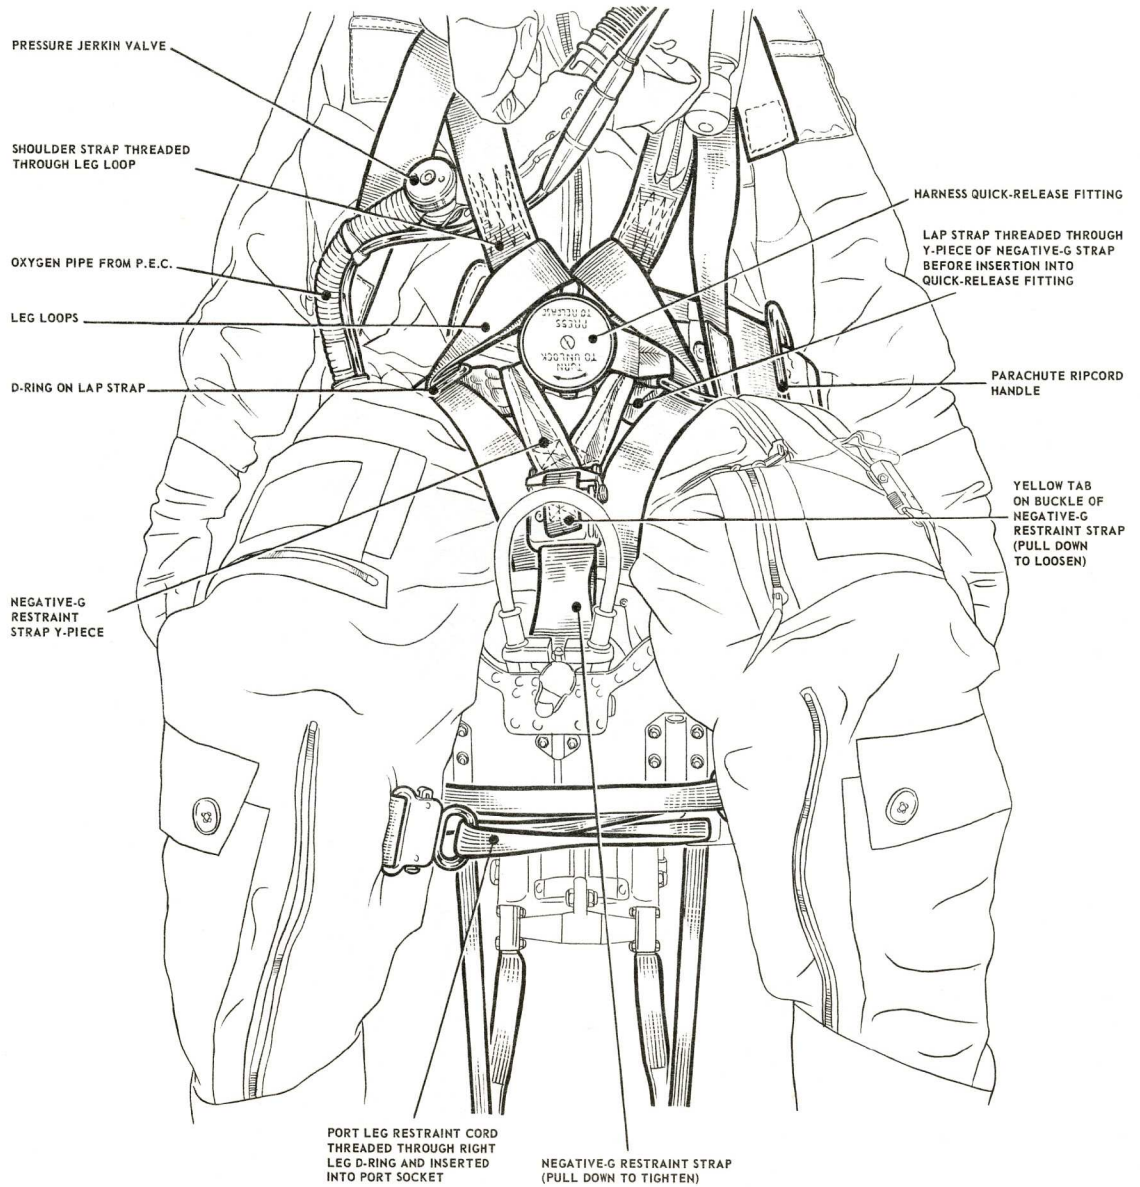

Fig. 8. Arrangement of leg restraint cords
17. The procedure for strapping-in is as follows, refer to figs. 8 to 10 as necessary :—
- (1) Ensure that the safety pins are correctly fitted in the 'safe for parking' condition.
- (2) Remove the dust cover from the P E.C. and fit it into the stowage on the right hand side of the seat pan.
- (3) Check that the static rods from the drogue gun and the barostatic time release unit are secured correctly
- (4) Grasp each lap strap and shoulder strap of the harness, pull sharply on each in turn and check for security
- (5) Sit in the seat and adjust its height; ideally the head should be central against the headrest wedge pad. Connect the personal component of the P E.C. to the seat portion.
- (6) Connect the personal survival pack lowering line to the corresponding fitting on the life jacket or pressure jerkin as appropriate, ensuring that it passes outside the left leg.
- (7) Pass the left leg restraint cord through the right leg garter D-ring and plug it into the socket above the left snubbing unit. Pass the right leg restraint cord through the left leg garter D-ring and plug it into the socket above the right snubbing unit. Pull sharply on both cords to ensure that they are locked correctly in their sockets. It is immaterial which cord is secured first but it is essential they are not interlaced (fig. 8).